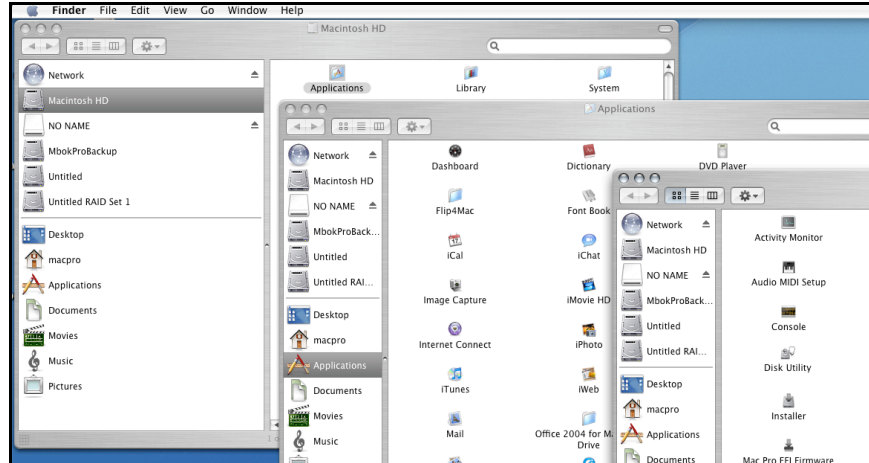

Figure 5: Locating Apple's *Disk Utility*
- d) Double click the *Disk Utility* icon (See Figures 5 and 6 for examples)